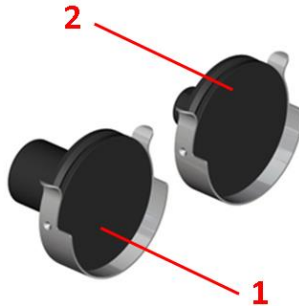
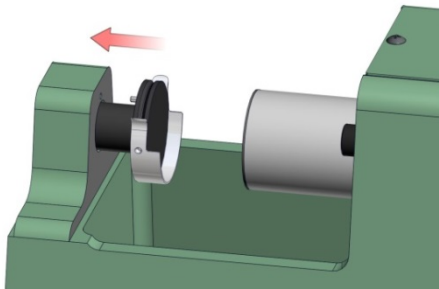

Figure 5.1.1
Figure 5.1.2
1. The Universal Strength Machine, Model PFG-MA, includes the required attachments to measure the compression strength of molding sand. The attachments required to perform this test are shown in Figure 5.1.1.
2. Install the two Compression Strength Attachments. First, align each of the pins located on the back side of the clamps with the holes located on the Base and Hydraulic Piston of the Universal Strength Machine. Then, gently slide the 24 mm attachment (Item 1, Figure 5.1.1) and 15 mm attachment (Item 2, Figure 5.1.1) into the Base and Hydraulic Piston, respectively. See Figure 5.1.2.